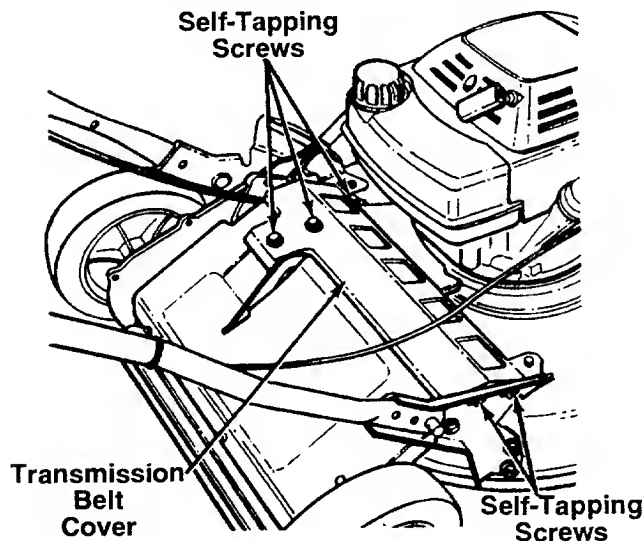

FIGURE 14.
- Remove the transmission belt cover by removing five self-tapping screws. See figure 14.